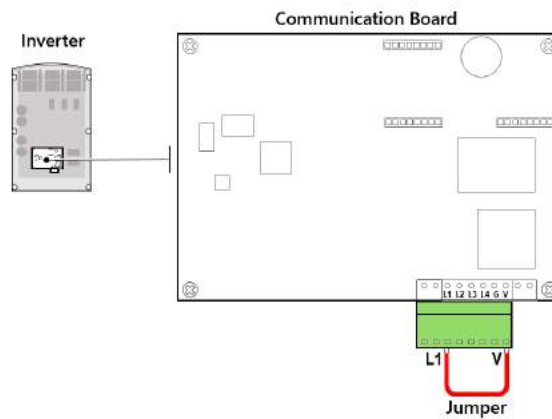

Figure 3 Using the inverter as voltage source to test Alternative Power Source mode
3. Use a jumper to short the **L1** and **V** terminals of the Communication Board (See Figure 3).
3. Connect twisted pair wires to the **L1** and **V** terminals of the Communication Board (See Figure 3).